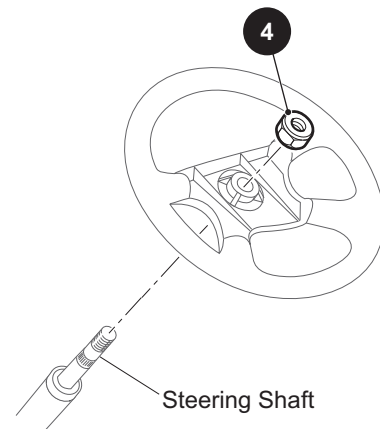

Figure 22 Steering Wheel Replacement
Loosen the steering wheel retaining nut (4) two to three turns (Ref. Figure 22). DO NOT REMOVE NUT AT THIS TIME. Apply upward pressure to the steering wheel. Place a plastic faced hammer against the steering wheel nut and strike plastic faced hammer sharply with a ball peen hammer.